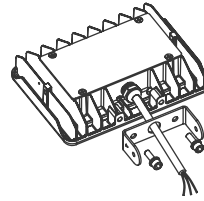

Fig. 2.1
2. Pass the wire through the hole of the bracket (Fig. 2.1).